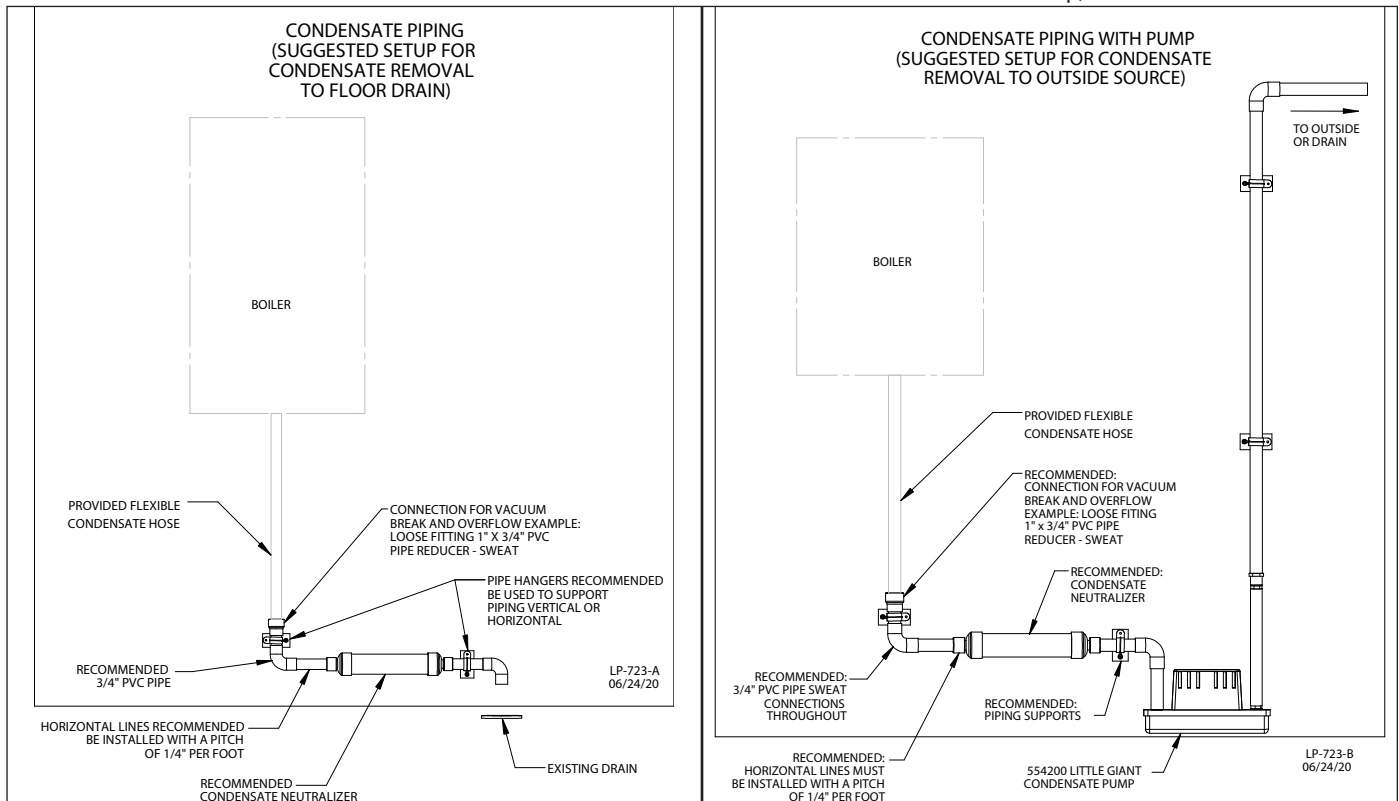

Figure 45 - Condensate Piping Suggestions
8. Local building codes may require an in-line neutralizer to be installed (not included) to treat the condensate. See Figure 45. If required by local authorities, a condensate filter of lime crystals, marble, or phosphate chips will neutralize slightly acidic condensate (p/n 7450P-212 available from HTP). Follow all the installation instructions included with the neutralizer. If a neutralizer is installed, periodic replacement of the limestone (or neutralizing agent) will be required. The rate of depletion of the limestone varies with usage of the boiler. During the first year of boiler operation, check the neutralizer every few months for depletion.